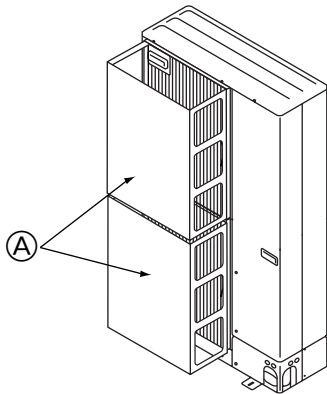

Fig. 3-3
- ② Install an optional air guide if the unit is installed in a location where strong winds from a typhoon, etc. may directly enter the air outlet. (Fig. 3-3)